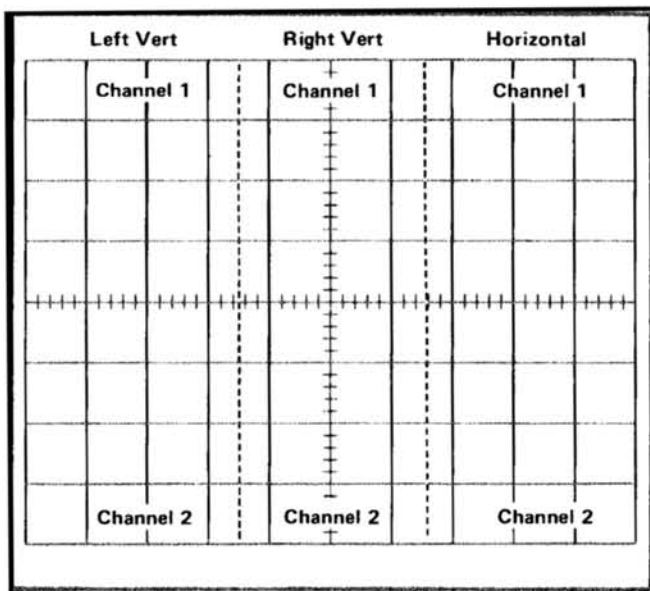

Fig. 3-24. Location of readout words on the CRT identifying the originating plug-in unit and channel (one complete frame shown, simulated readout).
Frame—A frame is a display of words for a given operating mode and plug-in combination. Up to six words can be displayed in one frame. Fig. 3-24 shows one complete frame (simulated readout) and the position at which each of the six words is displayed.
Display Format. Up to six words of readout information can be displayed on the CRT. The position of each word is fixed and is directly related to the plug-in unit from which it originated. Fig. 3-24 shows the area of the graticule where the readout from each plug-in unit is displayed. Notice that channel 1 of each plug-in unit is displayed within the top division of the CRT and channel 2 is displayed directly below within the bottom division. Fig. 3-26 shows a typical display.
The Character Generator stage produces the characters which are displayed on the CRT. Any of the 50 characters shown on the Character Selection Matrix of Fig. 3-24 can be addressed by proper selection of the column and row current. Only one character is addressable in any one time-slot; a space can be added into the displayed word by the Decimal Point Logic and Character Position Counter stage when encoded by the plug-in. The latter stage counts how many characters have been generated and produces an output current to step the display one character position to the right for each character. In addition, the character position is advanced once during each of time-slots 1, 2, and 3 whether a character is generated during these time-slots or not. This action fixes the starting point of the standard-format display such that the first digit of the scaling factor always starts at the same point within each word regardless of the information encoded in time-slot 2 (normal/invert) or time-slot 3 (cal/uncal) which precedes this digit. Also, by encoding row 10 and column 0 during any time-slot, a blank space can be added to the display. Decimal points can be added to the display at any time by addressing row 7 and columns 3 through 7 (see Character Selection Matrix for location of these decimal points). The Decimal Point Logic and Character Position Counter stage is reset after each word by the Word Trigger pulse.
The Format Generator stage provides the output signals to the vertical and horizontal deflection systems of the instrument to produce the character display. The binary Channel Address No. 2 code from the Channel Counter stage is connected to this stage so that the display from each channel is positioned to the area of the CRT which is associated with the plug-in and channel originating the word (see Fig. 3-24). The positioning current or decimal point location current generated by the Decimal Point Logic and Character Position Counter stage is added to the horizontal (X) signal at the input to the Format Generator stage to provide horizontal positioning of the characters within each word. The X- and Y-output signals are connected to the Horizontal Amplifier and Vertical Amplifier through the Horizontal Output and Vertical Output stages respectively.